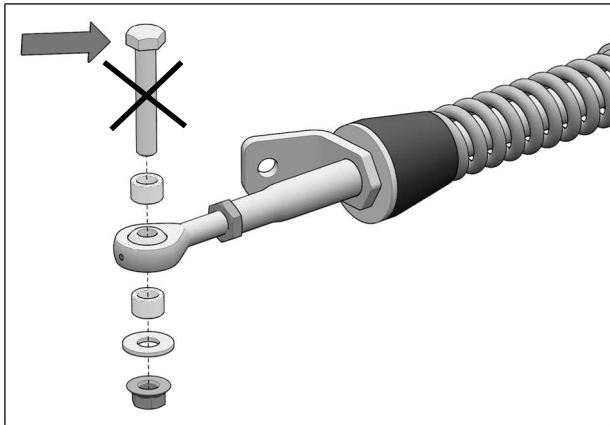

Fig. 12
3. Remove and discard bolts from front stabilizing rod ends as shown in Fig. 12